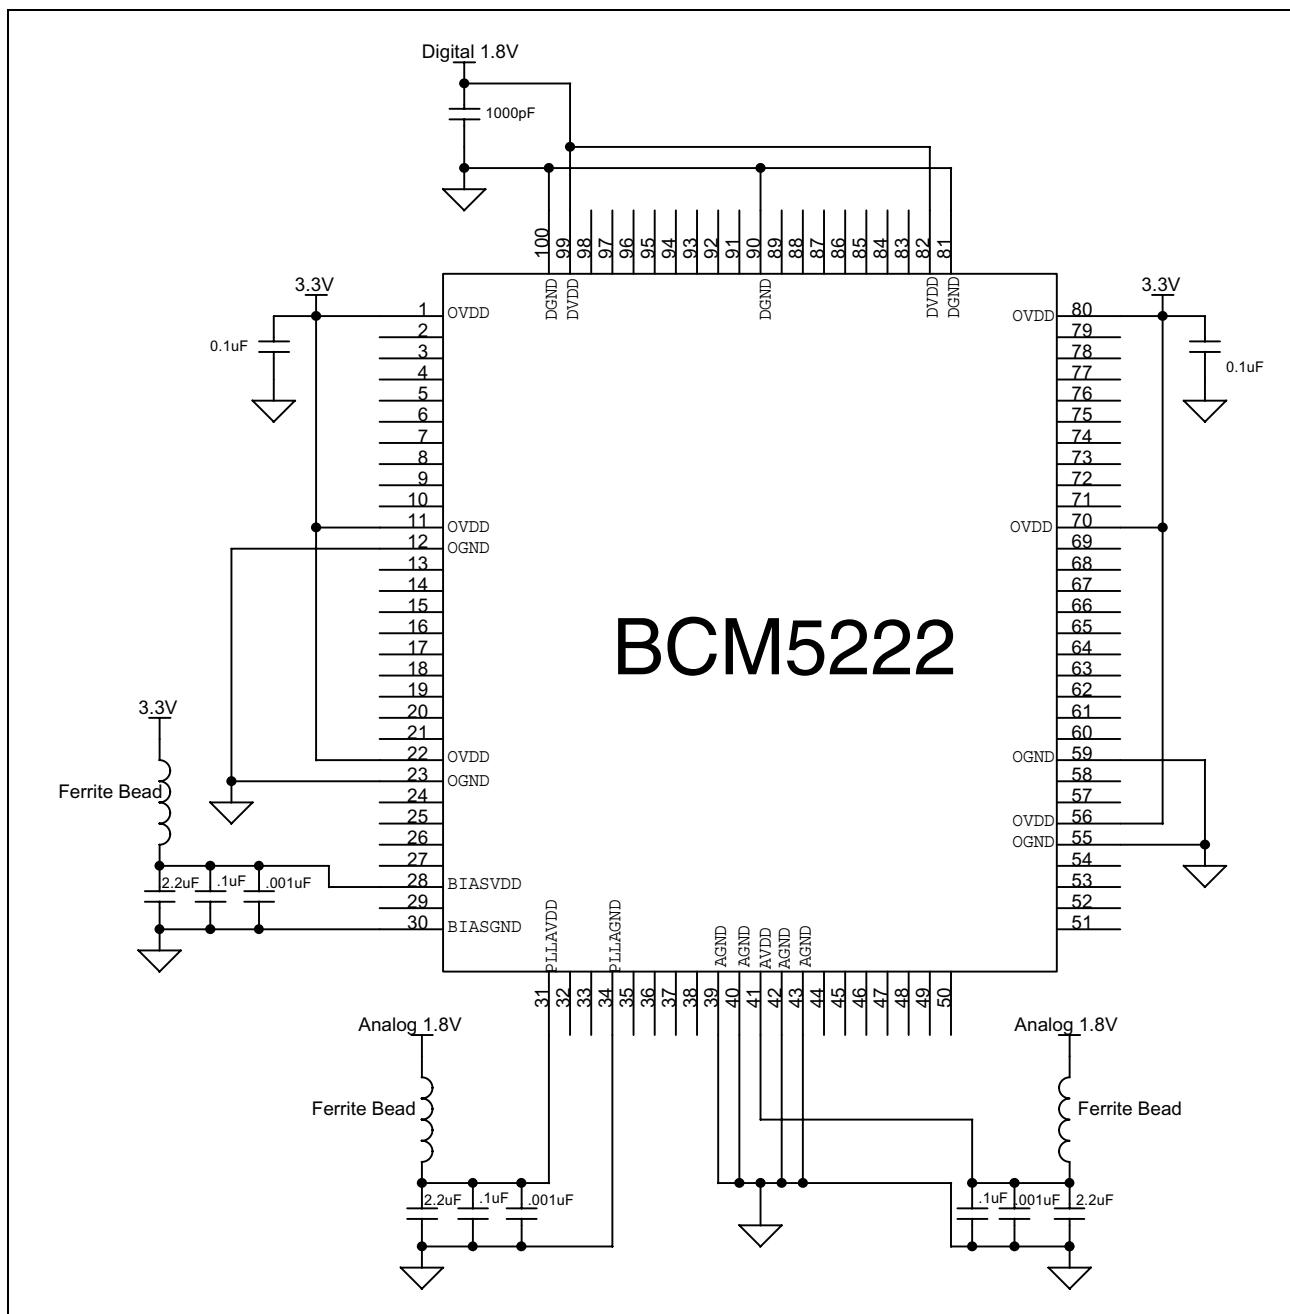

Figure 6: Power Decoupling and Filtering
DVDD—These pins supply a 1.8V supply to the internal digital core circuitry. Connect to decoupling capacitors as shown in Figure 6 on page 12.
AVDD—These pins supply a 1.8V supply to the internal analog core circuitry. Connect as shown in Figure 6 on page 12.
BIASVDD—This pin supplies power to the internal bias generator. Though this pin is not as sensitive as the PLLAVDD pin, described below, it is still more noise sensitive than the OVDD pins and deserves special consideration. Thus, it is recommended that a special low pass filter circuit be used as shown in Figure 6 on page 12.
PLLAVDD—This pin supplies power to the phase locked loop circuitry. This is the most sensitive power pin on the device, so Broadcom recommends that a special low-pass circuit filter be used, as shown in Figure 6 on page 12.
- Always place power supply filter components as close as possible to the recommended pins (see Figure 6 on page 12) in order to maximize the filtering effects. If a filter component cannot be directly connected to a given power pin with a very short and fat etch, do not connect it via copper trace. Instead make the connection directly to the associated planes with vias.